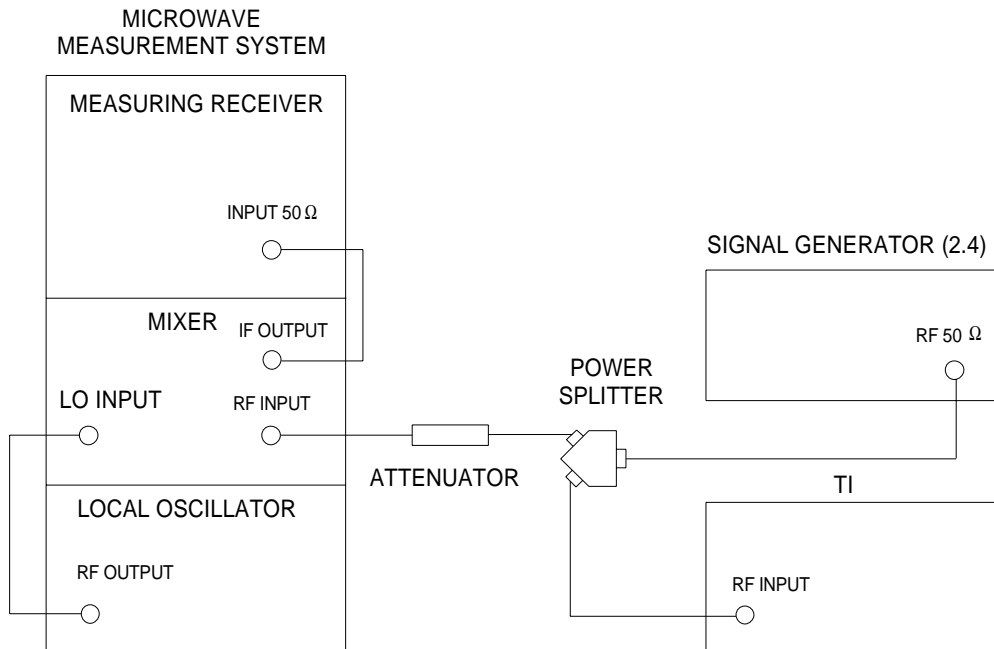

Figure 3.
4.6.1 Connect equipment as shown in Figure 3.